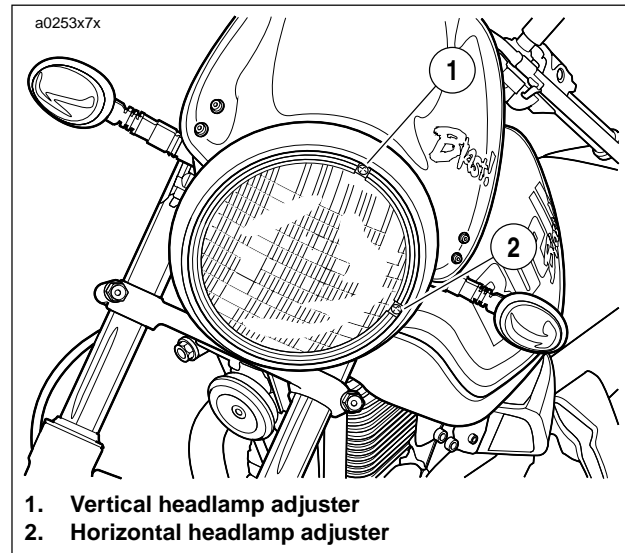

Figure 1-47. Headlamp Adjustment
1. See Figure 1-47. To adjust headlamp turn vertical headlamp mounting adjuster (1) clockwise to raise beam height.
2. Turn horizontal headlamp mounting adjuster (2) clockwise to change lateral alignment.